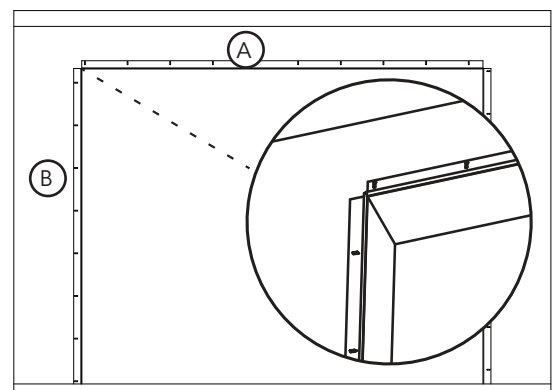

Fig. 1.2
- Cut the jamb (B) and lintel (A) seals, ensuring no gaps at the floor or corner joint as per Fig. 1.2.